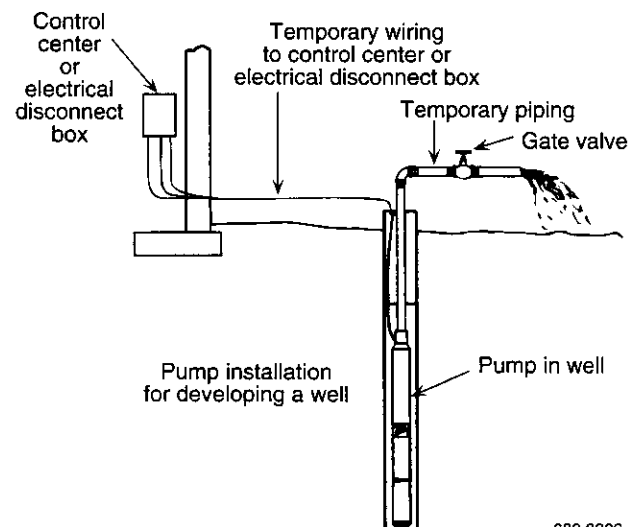

Figure 12
1. Connect temporary piping as shown in Figure 12, below. This includes a gate valve for flow regulation.